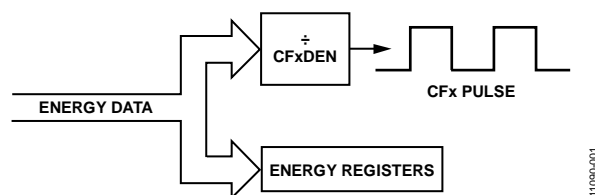

Figure 1. Accessing Energy Data
The ADE7880 can be calibrated by either reading the internal energy registers or measuring the external calibration frequency (CF) output pulse. The relationship between these two measurements is shown in Figure 1.
As shown in Figure 1, the energy register data and CFx output data are related by a factor of the CFxDEN register.